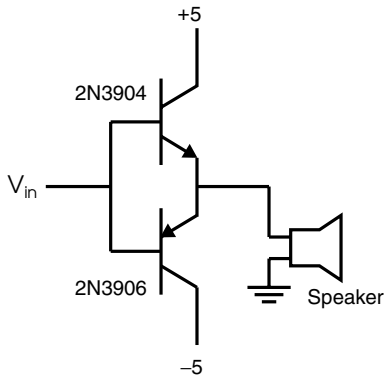

Fig. 4.11. Driving loudspeaker with push–pull buffer.
- ▷ Go back to 1 kHz and add a push–pull buffer as shown in Fig. 4.11. (Be sure you have adjusted the supply voltages to not more than $\pm 5\text{ V}$ so as not to overheat the transistors – they are rated for 200 mA collector current and 625 mW power dissipation.) You should see a larger output amplitude and hear a louder tone from the speaker.